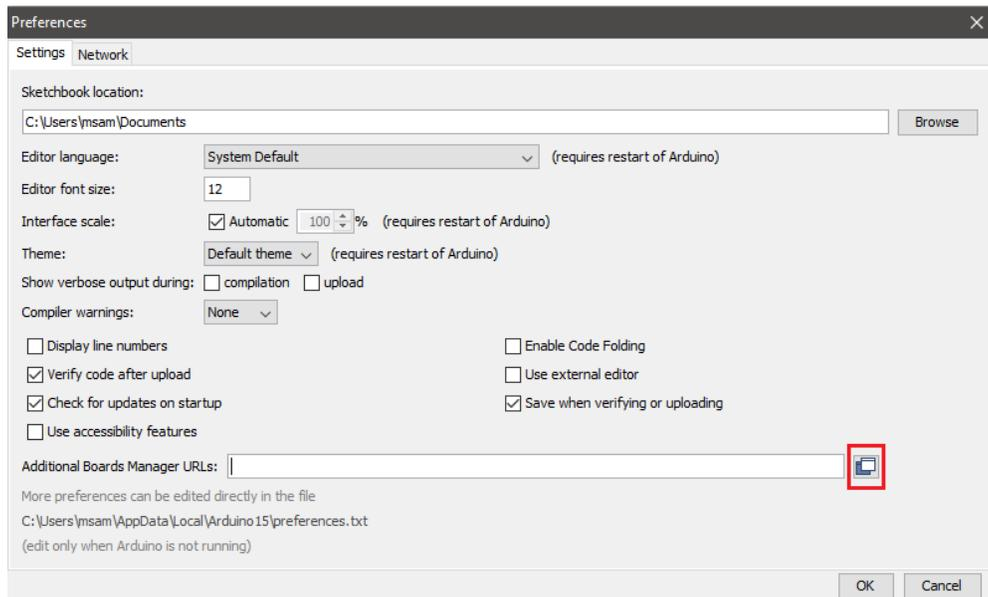

Figure 6: Modifying Additional Board Manager URLs
2. To add the RAK4630 to your Arduino Boards list, edit the **Additional Board Manager URLs**. Click the icon, as shown in **Figure 6**.